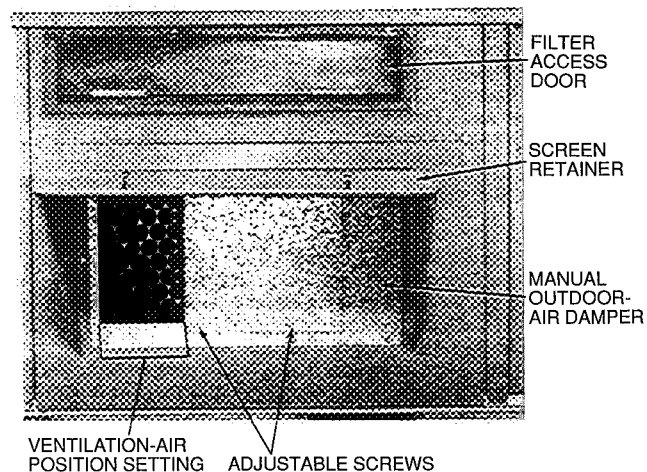
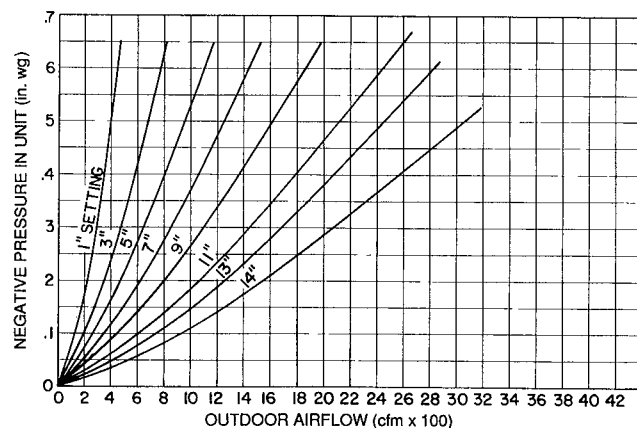

Fig. 13 – Manual Outdoor-Air Damper
Fig. 14 – Outdoor-Air Intake Position Setting
4. Refer to Fig. 13. Adjust ventilation-air position setting of the outdoor damper blade by loosening the adjustable screws and sliding the metal panel until in the position determined by Fig. 14.